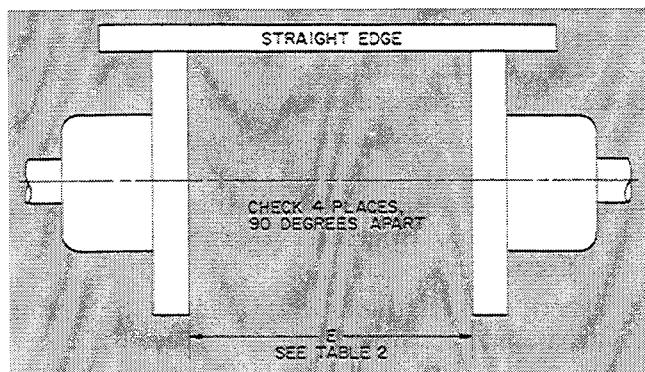

Fig. 4 — Preliminary Adjustment
**See Fig. 4.
Axial Adjustment (Dimension "E," Fig. 4) — Set the motor shaft in running position as explained under Preparation, Step 4.
Adjust the motor position as required until the distance between the flange faces (Dimension "E" in Table 2) is correct when measured at 4 points, 90 degrees apart (Fig. 4). When establishing Dimension "E", check the alignment of the flanges with a straight edge as shown in Fig. 4. *This is a preliminary check only. All final alignment must be by dial indicator.* Tighten the motor holdown bolts before proceeding further (securely, but not to specified torque as motor position will be adjusted in the alignment procedure). Final torquing will be done when alignment is complete.